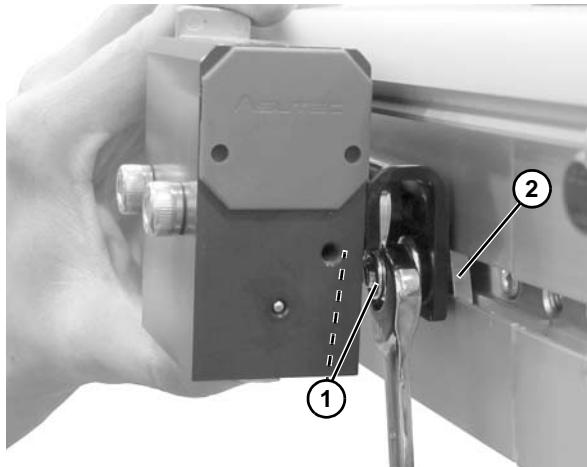

Figure 3
3. Tighten hex nuts (**Figure 3, item 1**) with wrench.